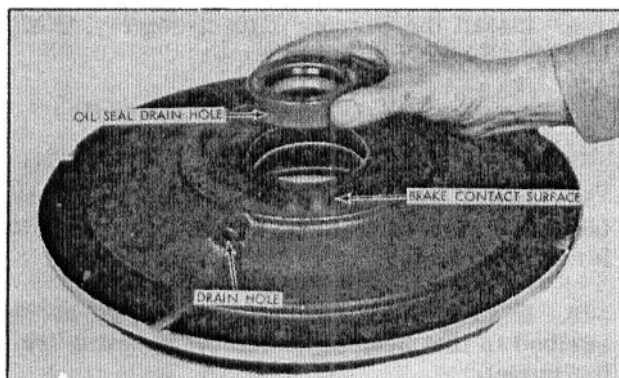

Fig. 7 - Carrier Plate Drain Hole
7. Examine the brake side of the carrier plate for oil leakage from the center housing. Replace the oil seal, if needed, as described under the "Carrier Plate Assembly" heading in this Divider Tab. Be sure that the oil drain hole is not plugged. See Fig. 7.